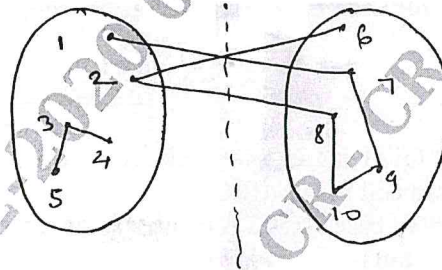

Fig.Q6(b)
b. With relevant equations, explain KL algorithm. Construct the connectivity matrix for the network shown in the below Fig.Q6(b). Also find the gain in the network graph shown if :